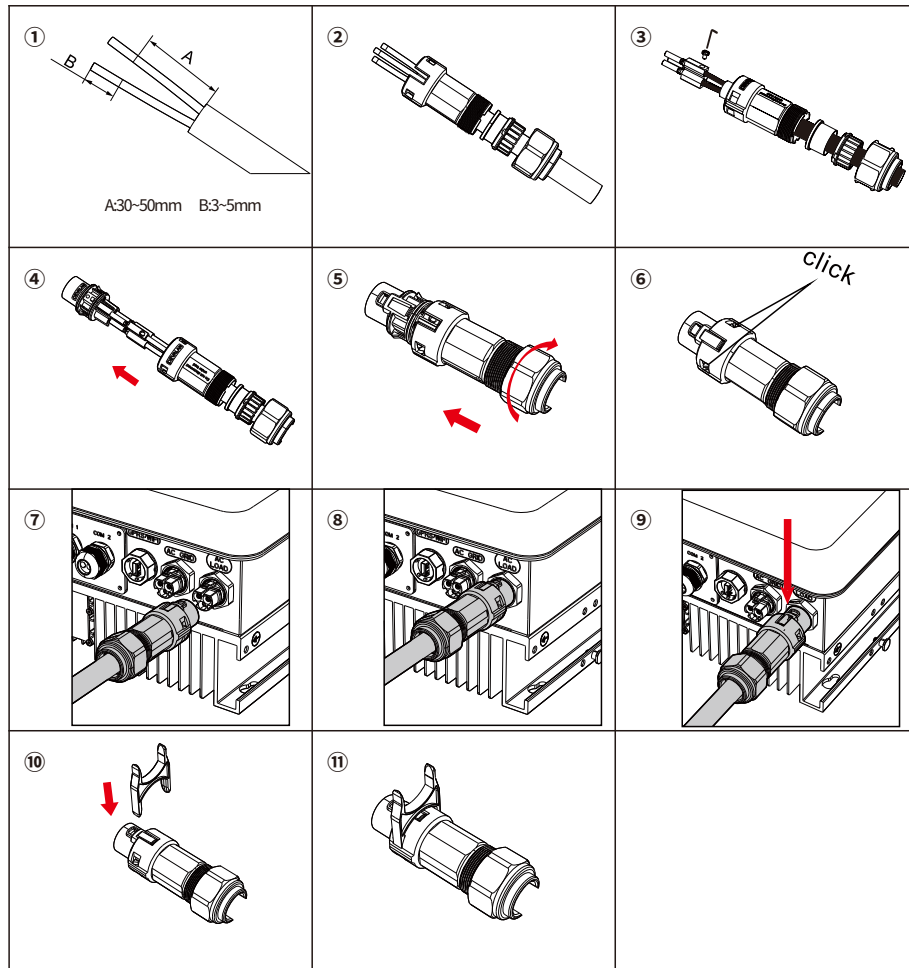

Figure 12: Connection of load cable
Step 1: Select the appropriate type and specification of cable according to Table 4-3, and then strip the cable; the specific stripping length shall refer to Figure 12 ①; A: 30~50mm B: 3~5mm
Step 2: Disassemble the AC terminal as shown in Figure 12 ②, and pass the stripped cable through the waterproof locking nut;
Step 3: Lock the cable into the locking hole on the terminal as indicated, and fastened with a hexagon socket screwdriver, as shown in Figure 12 ③④;
Step 4: Insert the output terminal, and when the “click” sound is heard, tighten the waterproof nut clockwise, as shown in Figure 12 ⑤⑥, to ensure that the cable is securely connected;
If it is required to remove the terminal from the equipment, it can be pulled out by a tool inserted in the direction as indicated by the arrow. The same tool can be used to remove the terminal, as shown in Figure 12 ⑩⑪.